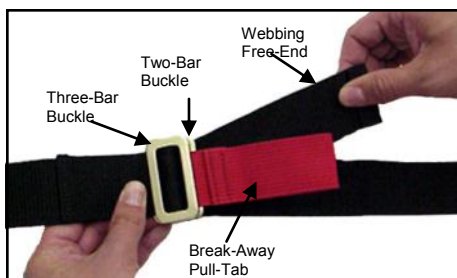

Figure 3, Seating the Buckles
- 2 Pull slightly on the free end of the webbing to firmly seat the three-bar buckle on top of the two-bar buckle (fig. 3).